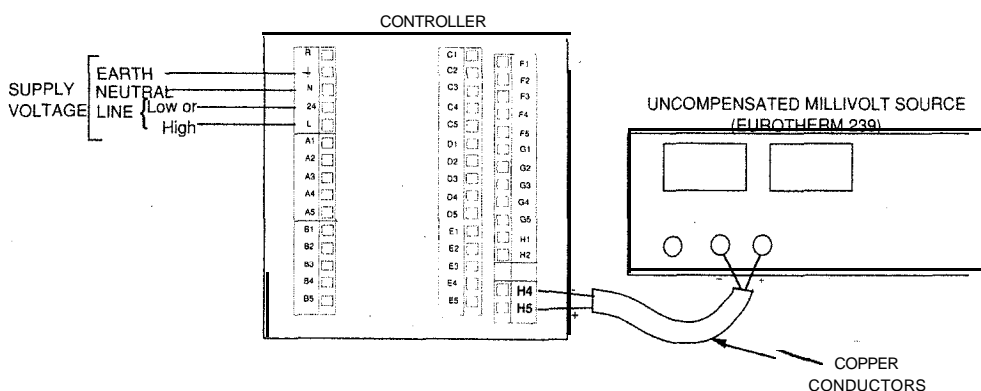

Figure 4 Instrument connections for hLL and hLh calibration procedure.
- 1) Connect the instrument and calibrator together as in Figure 4.